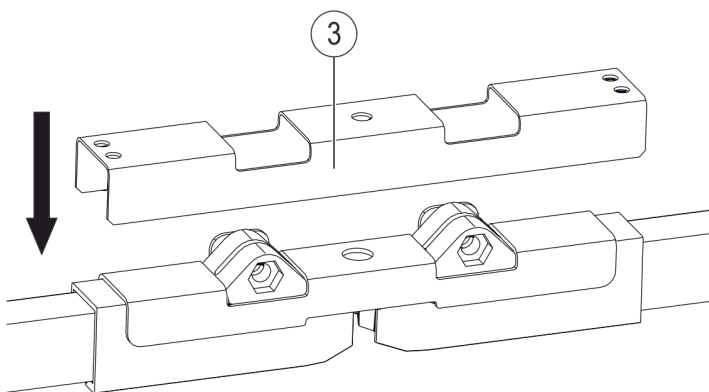

Fig. 101: Place the cover
- Place the cover (Pos. 3) on the plate (Pos. 2) (see Fig. 101).